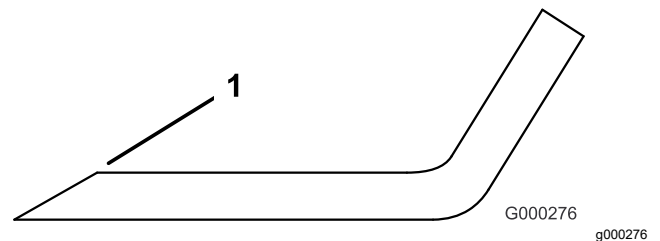

Figure 27
4. Examine the cutting edges of all of the blades and sharpen the cutting edges if they are dull or nicked (**Figure 27**).
Note: Sharpen only the top of the cutting edge and maintain the original cutting angle to ensure sharpness (**Figure 27**). The blade remains balanced if the same amount of metal is removed from both cutting edges.